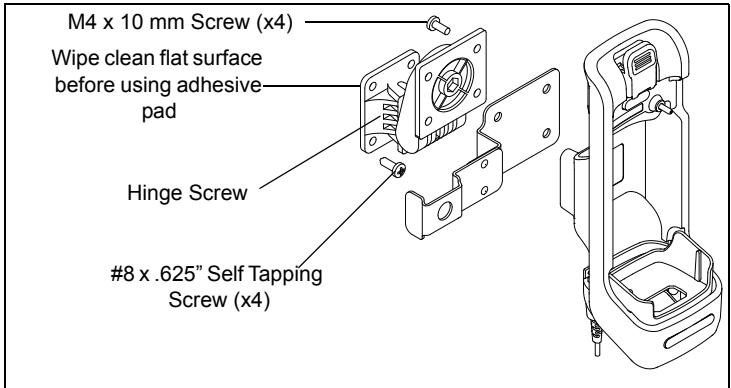

Figure 1: Vehicular Cradle, RSM Bracket, and Mounting Bracket
When installing the Vehicular Cradle, use the following procedure or modify to suit the particular vehicle. See Figure 1 above:
5. Secure the cradle to the other half of the bracket using the four M4 x 10 mm screws, you may choose to sandwich the RSM bracket in between or install it separate as shown in Figure 1.